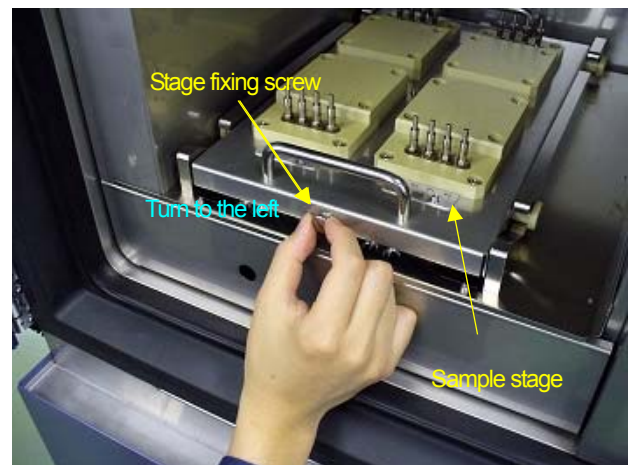

Fig.3-1 Removal of sample stage
- ① Confirm the temperature in the chamber is always near the room temperature.
- ② If the power amplifier is used, **be sure to turn off** the output of it.
- ③ Rotate counter clockwise and loosen four removal knobs (see Fig.3-1).